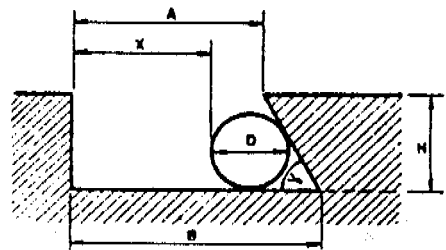

Figura 4
**RANURAS DE UNA SOLA COLISA ( Figura 4 )**